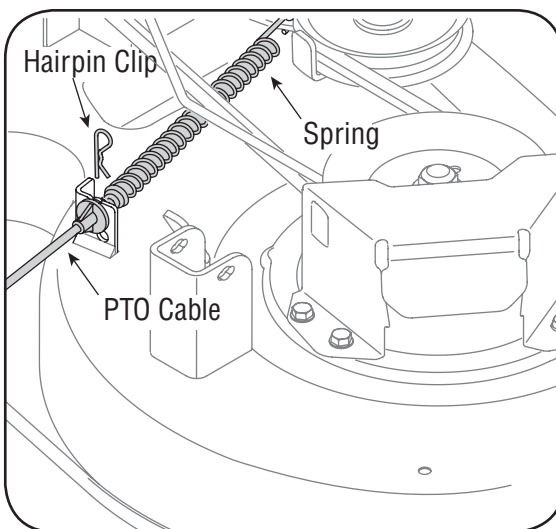

Figure 6-3
3. Remove the hairpin clip that secures the PTO cable to the rear of the cutting deck. See Figure 6-3. Remove the PTO cable and accompanying spring from the cutting deck.